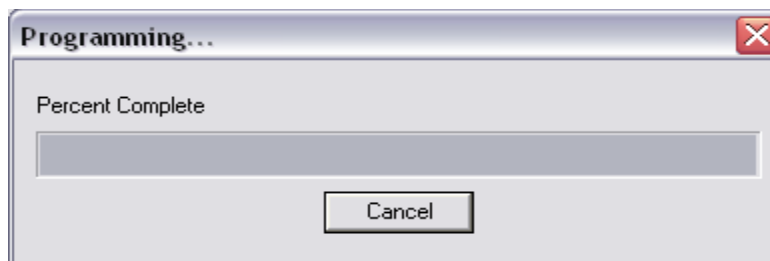
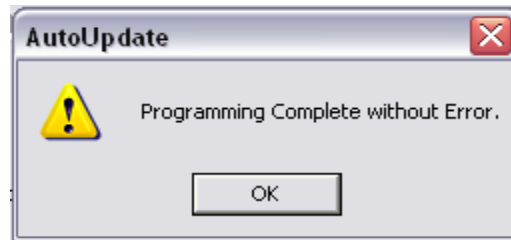

Figure 15 Programming Screen
Figure 16 AutoUpdate Complete Screen
6. To upload the new firmware, click the Update button and Figure 15 will be displayed for a few seconds.
7. After Figure 15 automatically closes, Figure 16 will be displayed. Click the OK button and now the uploading firmware process is completed.